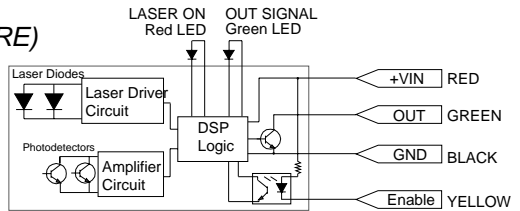

Figure 6 - Wiring Connections
5.3 CONNECTIONS *(See Figure 6)*